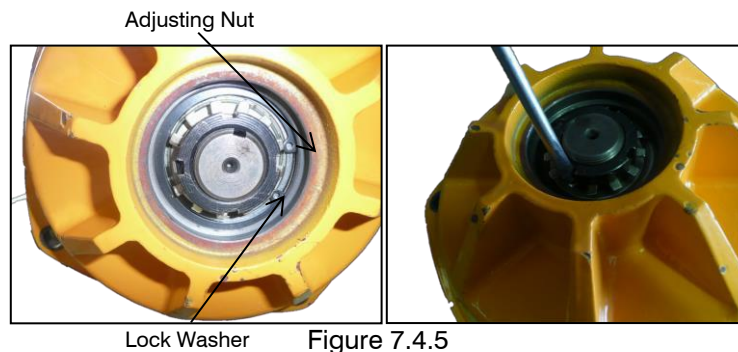

Figure 7.4.5
2. Bend the tab of the lock washer away from the adjusting nut so that the adjusting nut can be rotated (see Figure 7.4.5).
4. Bend the tab of the lock washer away from the adjusting nut so that the adjusting nut can be rotated (see Figure 7.4.5).